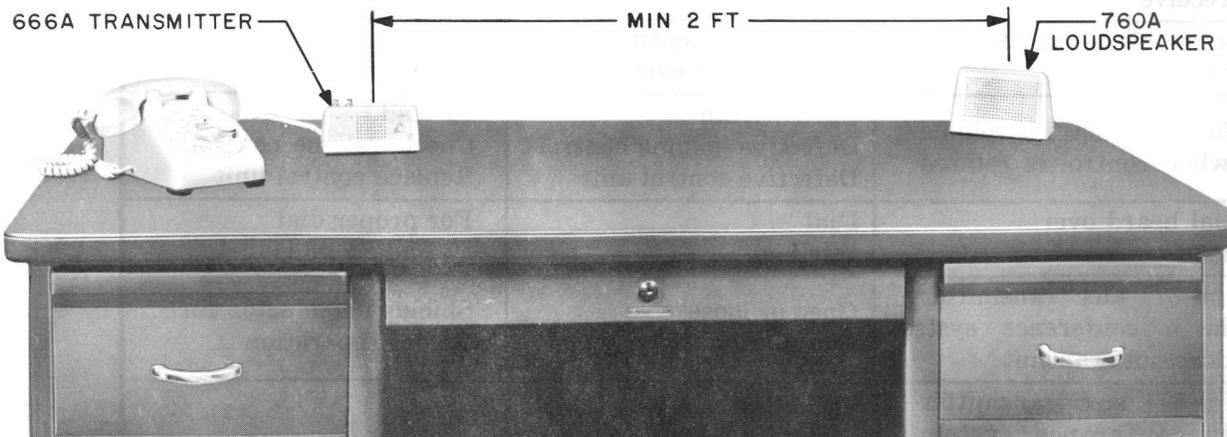

Fig. 1 — 3-Type Speakerphone System Installed
2.05 Place transmitter and loudspeaker within convenient reach of customer and with 2 feet minimum spacing. Fig. 1 shows a typical installation.